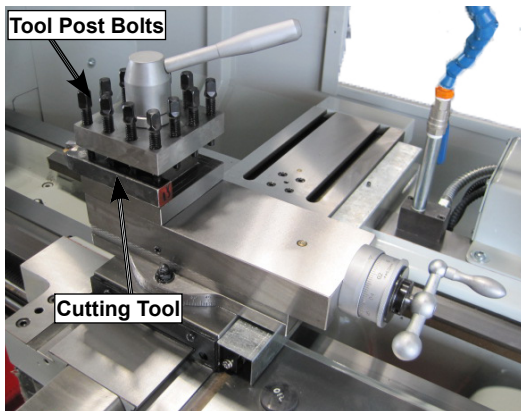

Figure 39. 4-way tool post.
3. Firmly secure the cutting tool with at least two tool post bolts, as shown in Figure 39.